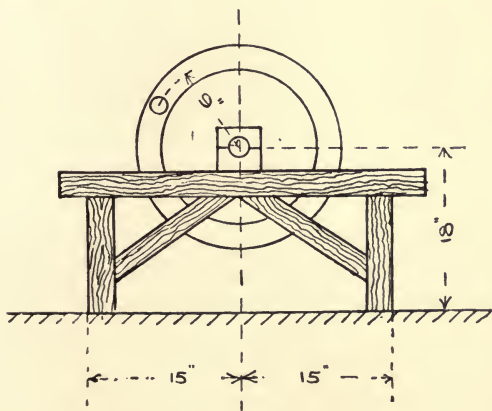

Fig. 2.
3. The wheel shewn in Fig. 2 is out of balance due to a hole bored in the rim which has removed  $\frac{1}{2}$  lb. of metal. The total weight of the wheel and the framework on which it rests is 200 lbs. Calculate how many revolutions per minute the wheel can make without causing the frame to rock on its supports.